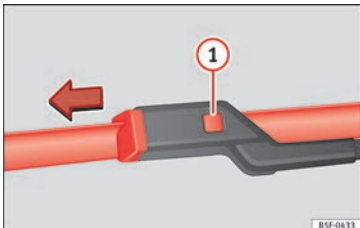

Fig. 82 Changing the windscreen wiper blades
- Press and hold release button » » » Fig. 82 ① and pull gently on the wiper blade in the direction of the arrow.